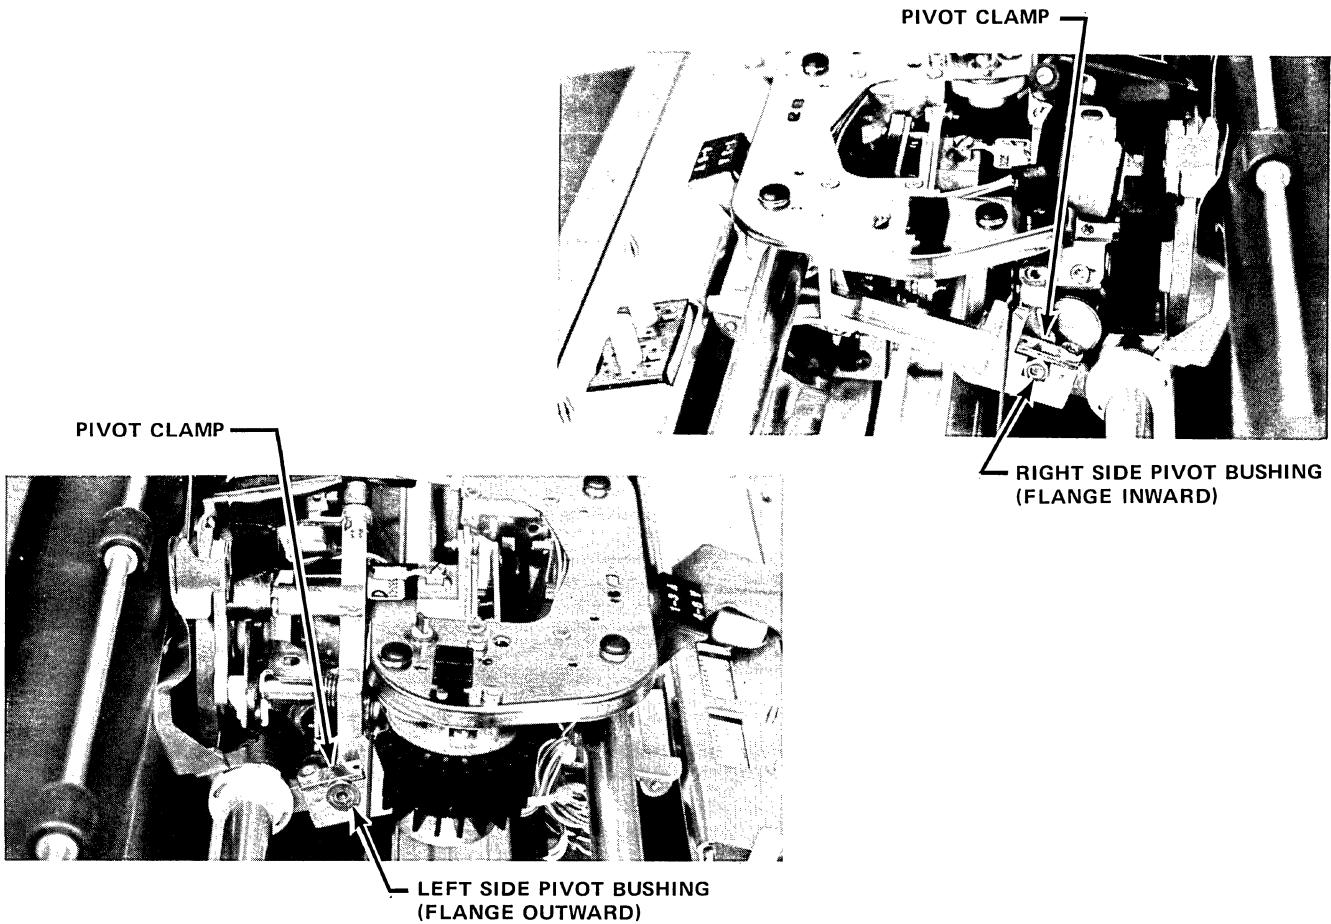
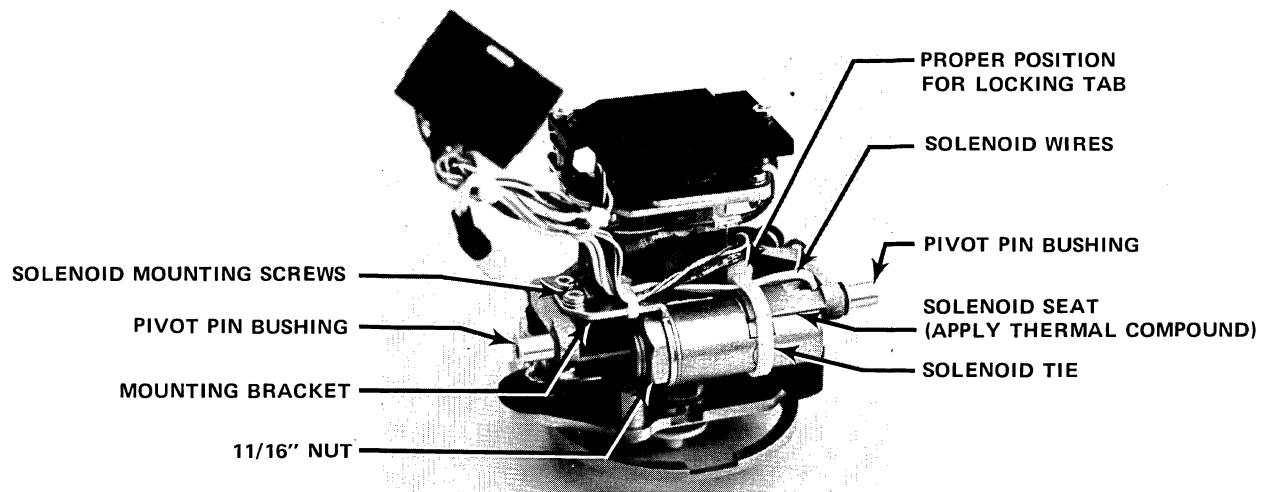

Figure 4-32. ECS CARRIAGE PIVOTS
Figure 4-33. ECS CARRIAGE PIVOT ASSEMBLY
- 8) Loosen the two pivot clamps (Fig. 4-32) holding the pivot assembly in place on the lower carriage assembly, and swing the clamps outward to release the pivot bushings.
- 11) Remove the two screws holding the ECS solenoid mounting bracket to the pivot assembly (Fig. 4-33).
- 12) Cut the cable tie holding the solenoid to the pivot assembly (Fig. 4-33), and remove the solenoid.
- 1) Apply a coating of thermal compound to the solenoid seat on the pivot assembly (Fig. 4-33) where it will contact the solenoid.
- 3) Install the mounting bracket onto the new solenoid assembly. Before tightening the mounting nut, ensure that the bracket extends out from the solenoid in the same direction as the solenoid wires (Fig. 4-33).
- 7) Install and loosely tighten the two screws that hold the solenoid mounting bracket to the pivot frame (Fig. 4-33).
- 8) Install a large cable tie to loosely clamp the solenoid and solenoid wire to the solenoid mounting plate (Fig. 4-33). DO NOT TIGHTEN THE CABLE TIE SECURELY OR CUT THE TAIL OFF THE CABLE TIE AT THIS TIME. THIS WILL BE DONE AFTER THE SOLENOID HAS BEEN ADJUSTED.
- 9) Adjust the solenoid as described in subsection 5.12. When adjustment is finished, ensure that the solenoid-clamping cable tie has been tightened, that its tail has been cut off, and that its locking tab is positioned as shown in Figure 4-33.
- 10) Apply a light film of multipurpose grease to the pivot pins on the pivot assembly (Fig. 4-33), and slide the bushings onto the pivot pins. Be sure that the left bushing is installed with its flange outward as shown in Figure 4-32, to prevent interference with the solenoid plunger.
- 11) Lower the pivot assembly onto the lower carriage assembly and loosely tighten the bushing clamp plates (Fig. 4-32).